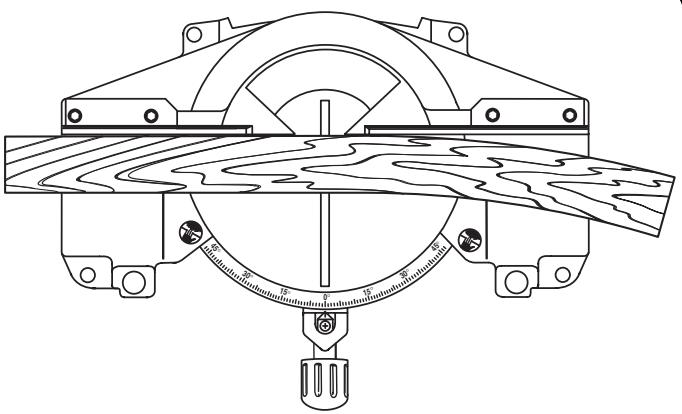

Fig. 24
- Place the workpiece flat on the miter table with one edge securely against the fence. If the board is warped, place the convex side against the fence. If the concave edge of a board is placed against the fence, the board could collapse on the blade at the end of the cut, jamming the blade. See Figures 24 and 25.
See Figures 24 and 25.
When cutting warped material, always make sure it is positioned on the miter table with the convex side against the fence as shown in figure 24.